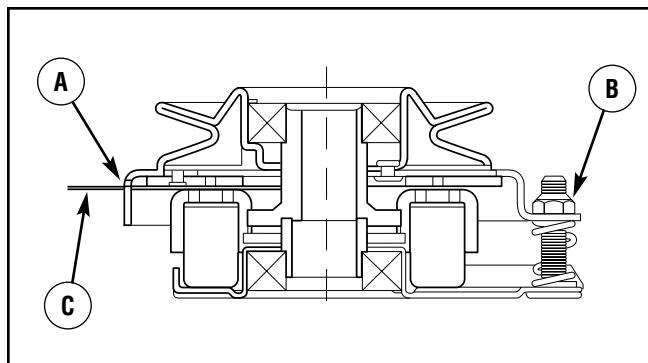

Figure 26: PTO clutch adjustment
3. Insert a .016"-.018" (0,40-0,45mm) feeler gauge (**C**, **Figure 26**) through each window, positioning the gauge between the rotor face and the armature face as shown.